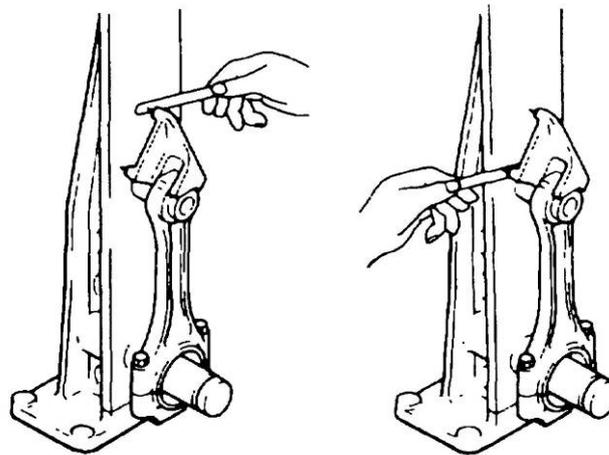

Figure 30 Checking the Connecting Rod Alignment
- t. Before checking the small-end bush on the connecting rod for wear, ensure that the connecting rod is serviceable. Install the connecting rod on an alignment jig and check it for twisting or bending (Figure 30). The standard twist or bend is less than 0.05 mm (0.002 in) per 100 mm of the connecting rod length. Replace the connecting rod if twist or bend exceeds 0.200 mm (0.0079 in) per 100 mm.